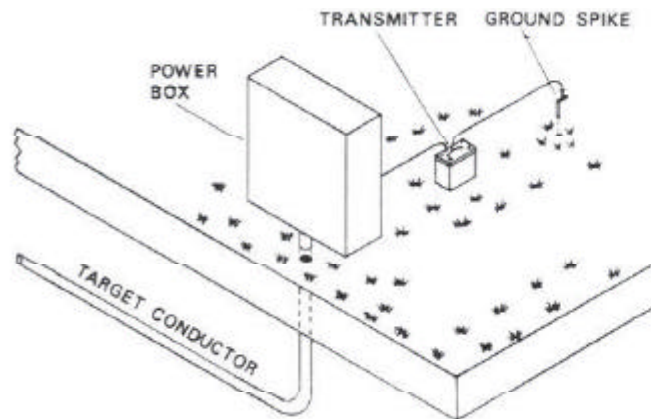

Figure 4-1: Direct Connection
- 3 Move the Transmitter away from the conductor in a right angle direction as shown in Figure 4-1 on next page.